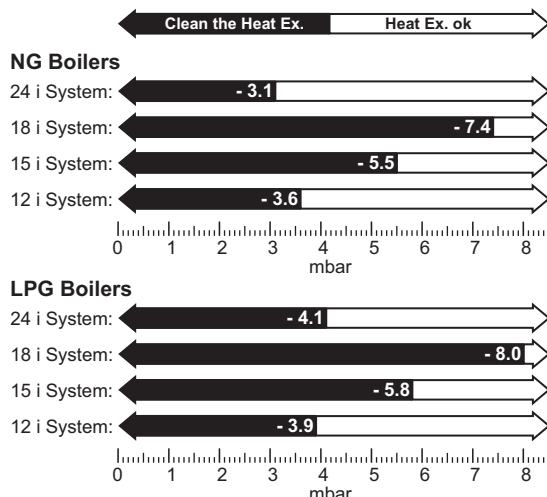

Fig. 75 Fan pressure readings
- ▶ The pressure will read negative, refer to the chart in figure 75.